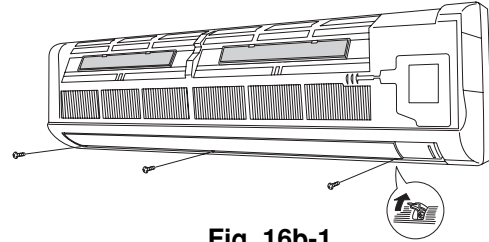

Fig. 16b-1
- (5) Affix the grille with the 3 previously removed screws. (Fig. 16b-1)
- (6) Install the air intake grille.